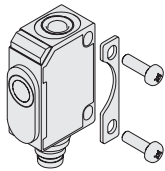

Fig. 1: Attachment with mounting plate
- ➔ Mount the sensor at the installation site with the aid of the enclosed mounting plate (see Fig. 1). Maximum torque of attachment screw: 0,5 Nm